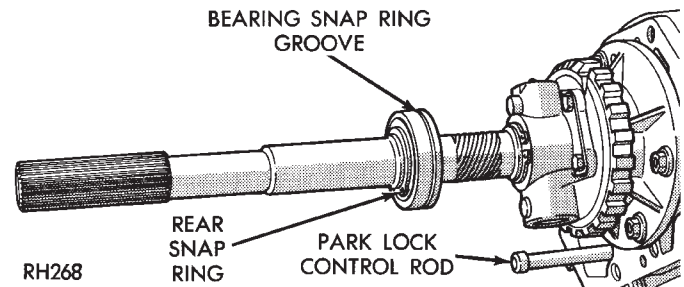

Fig. 34 Output Shaft Rear Bearing—Typical GOVERNOR AND PARK GEAR
(1) Remove extension housing.
(2) Remove snap ring that retains rear bearing on output shaft (Fig. 34).
(3) Remove bearing from output shaft.
(1) Install bearing on output shaft. Be sure retaining ring groove in outer circumference of bearing is toward the governor.
(2) Install rear bearing retaining snap ring (Fig. 34).
(3) Install extension housing.